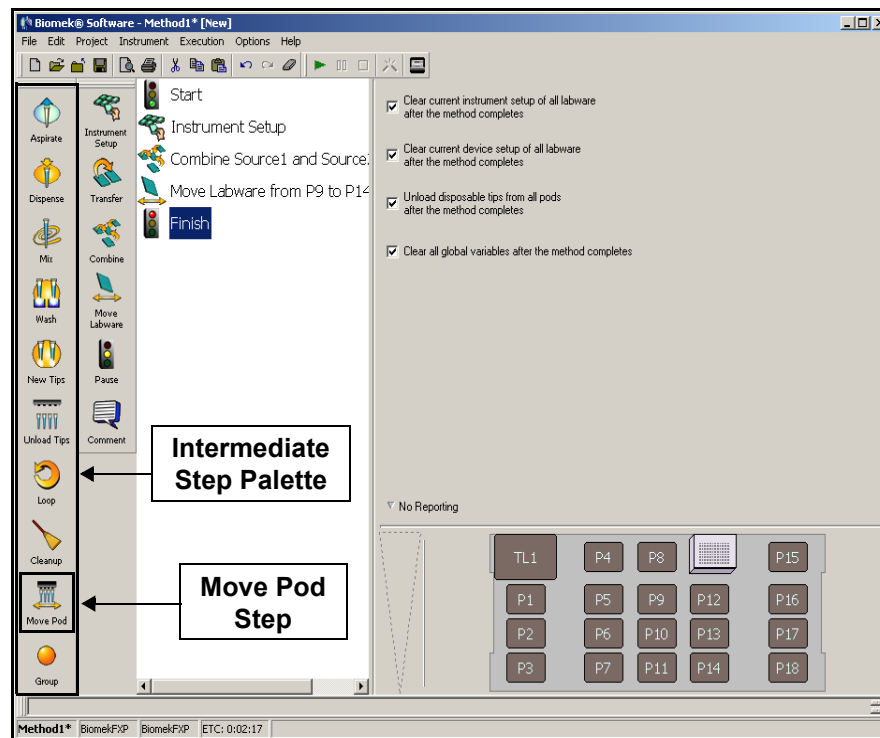

Figure 2-9. Intermediate step palette displayed
2. Choose **Intermediate**. Your main editor now looks like Figure 2-9.
1. Insert the **Move Pod** step in the Method View after the Move Labware step (Figure 2-9).